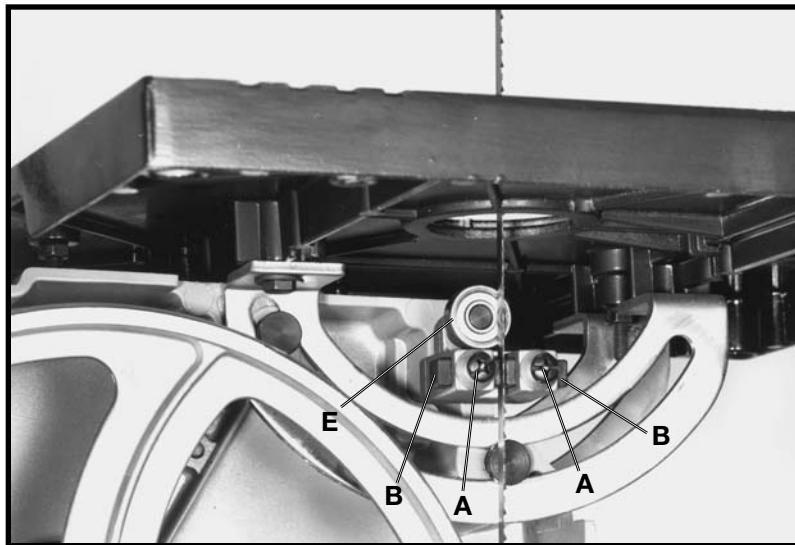
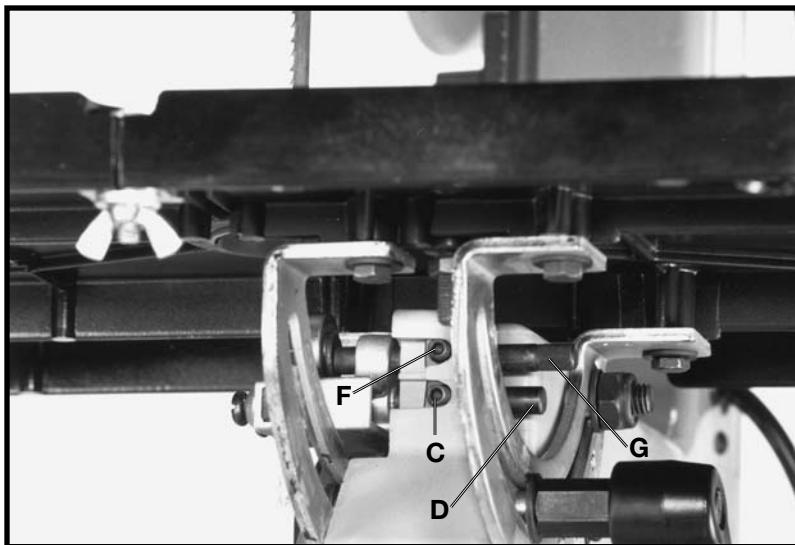

Fig. 25
Fig. 26
2. Loosen the two screws (A) Fig. 25, and move the guides (B) as close as possible to the sides of the blade, being careful not to pinch the blade between the guides. Then tighten the two screws (A).
3. The front edge of the guide blocks (B) Fig. 25, should be adjusted so they are just behind the "gullets" of the blade teeth by loosening screw (C) Fig. 26, and moving shaft (D) in or out as desired. Then tighten screw (C).
4. The lower blade support bearing (E) Fig. 25, should be adjusted to support the rear of the blade during the cutting operation and also prevent the blade from being pushed too far to the back which could damage the set in the blade teeth. The support bearing (E) Fig. 25, should be set about $1/64"$ behind the blade by loosening screw (F) Fig. 26, and moving shaft (G) in or out. Then tighten screw (F).
5. The lower blade support bearing (E) Fig. 25, should also be adjusted so the back edge of the blade overlaps the outside diameter of the ball bearing by approximately $1/8"$. The bearing shaft (G) Fig. 26, is on an eccentric and to change position, loosen screw (F) and rotate shaft (G) until correct adjustment is made. Then tighten screw (F).